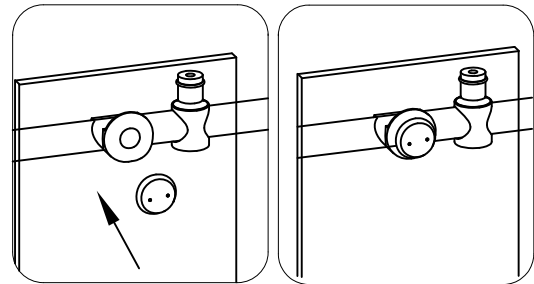

Fig. 18
18. Position the Small Fixed Glass (19) in place against shower wall. Secure the Small Fixed Glass (19) to Top Rail (2) as shown in Fig. 18.